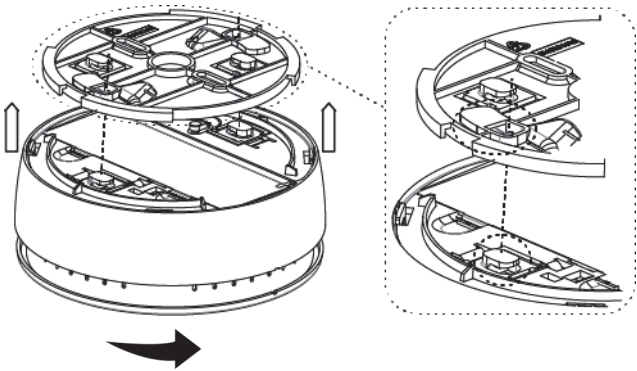

Figure 5
6. To Install the sounder on the mounting bracket, align the base with the bracket, insert the base hooks fully into the bracket cavities and then turn the detector in the direction of the arrow to secure (see Figure 5).